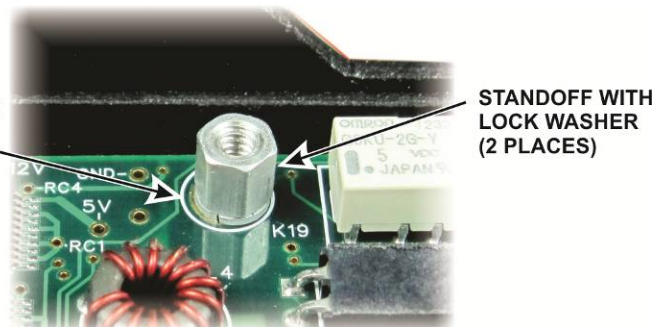

Figure 20. KXAT3 or Adapter Mounting Hardware.
- Secure the KXAT3 or adapter board using the two M-F standoffs and lock-washers. Place the lock washers under the standoffs as shown in Figure 20.